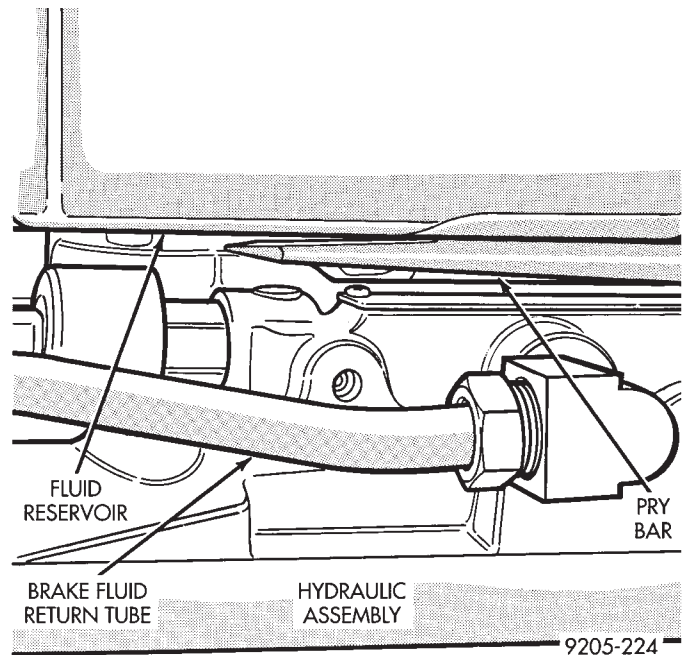

Fig. 9 Reservoir Removal From Hydraulic Assembly
(6) Remove brake fluid reservoir from hydraulic assembly by **carefully** prying between reservoir and hydraulic assembly using a blunt pry bar (Fig. 9). Use a rocking motion to help disengage reservoir from grommets while prying.